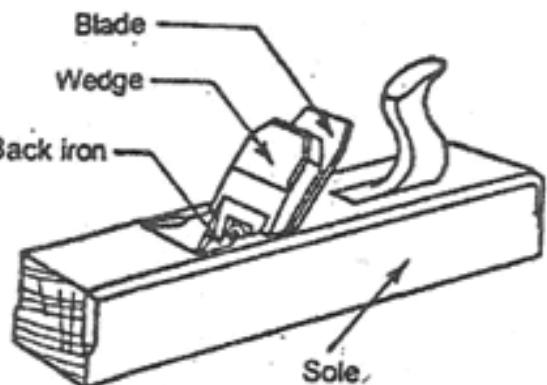

Figure 26 Jack plane
**Jack plane.** A jack plane shown in Fig. 26 is the commonest and is used for the first truing-up of a piece of wood.